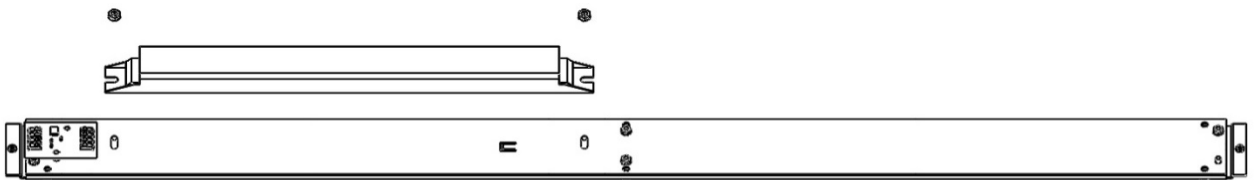

Fig. 12
4. Flip the uplight module to reveal the driver underneath. Remove two #8 nuts securing the driver. (Fig. 12)